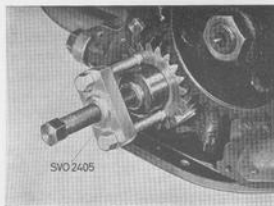
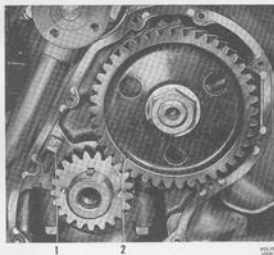

Fig. 2-51. Removing crankshaft gear
Fig. 2-54. Marking on timing gears
5. Pull off the crankshaft gear by using puller 2405, Fig. 2-51. Screw out the oil nozzle, blow it clean and then re-fit it as shown in Fig. 2-54. The gears are lubricated by oil fed through this nozzle.
Check that gears are in the correct position relative to each other, as shown in Fig. 2-54. Tool 2407 has a socket intended for turning the crankshaft.